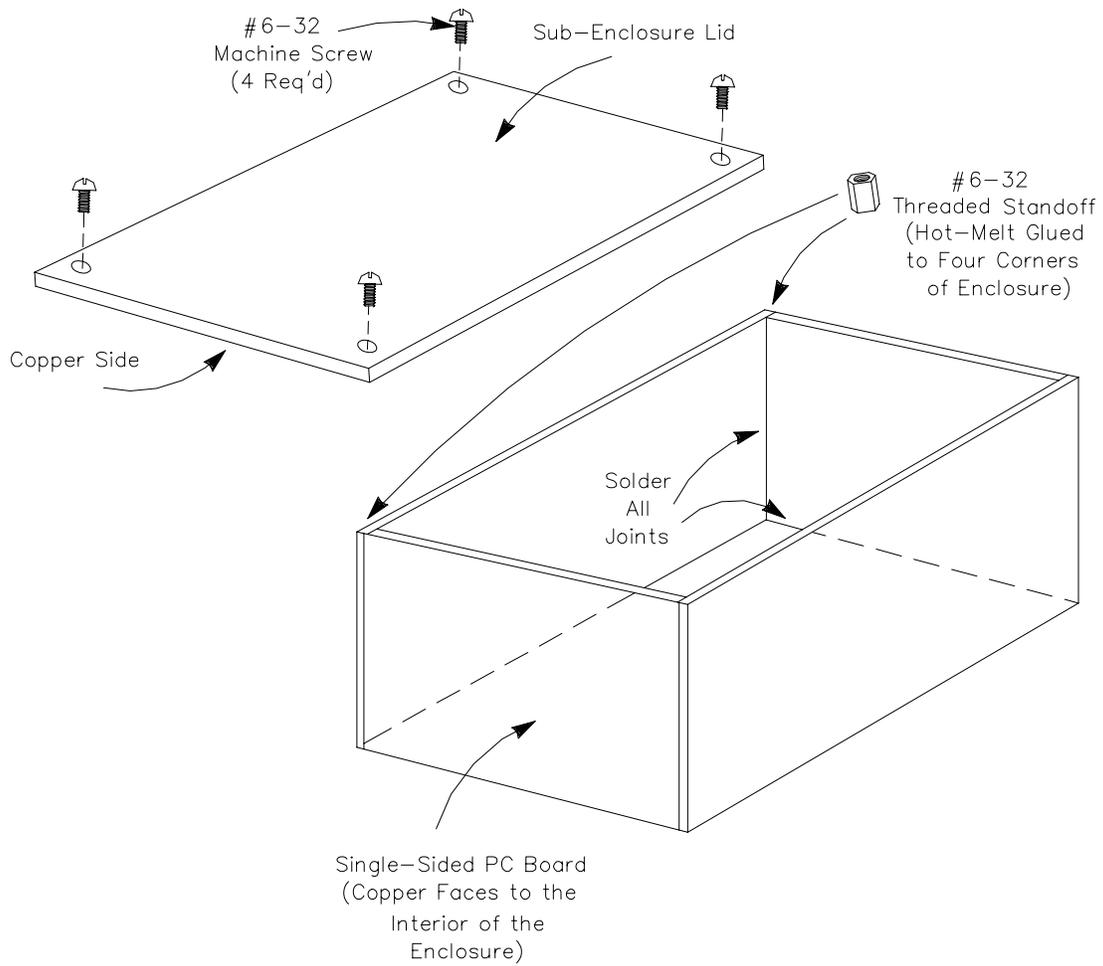

Figure 1—The oscillator sub-enclosure, fabricated from pieces of single-sided PC-board material.
I built this inner enclosure from some single-sided printed circuit (PC) board (see Figure 1). I cut the pieces of PC board by scoring them with an X-acto knife, then snapping the board along the scored line. Very carefully, I soldered each of four sides onto the bottom of the sub-enclosure, which would be bolted to the main enclosure later in the assembly. I used hot-melt glue to secure a threaded standoff in each of the four corners. This permits the oscillator enclosure to be bolted, not soldered, to the top of this inner enclosure. I could have soldered the entire unit, but that would have made